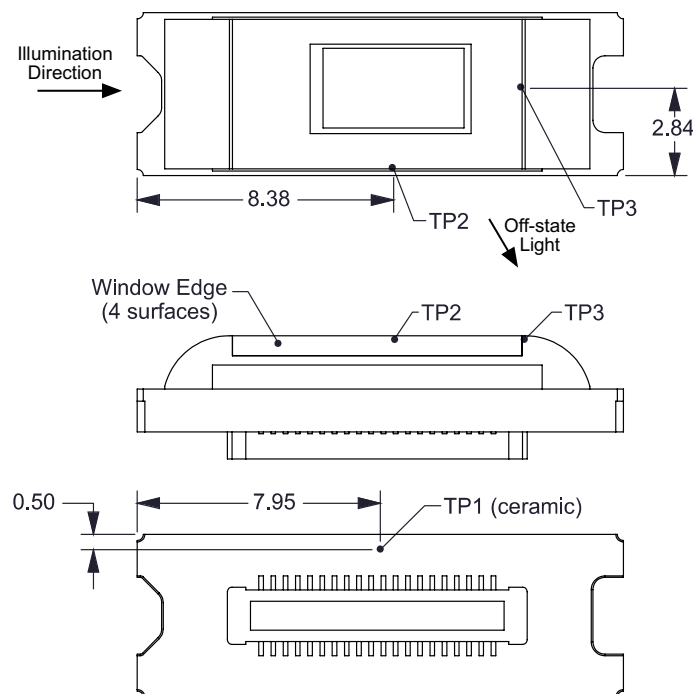

Figure 19. DMD Thermal Test Points
- T_{CERAMIC} = Measured ceramic temperature (°C), TP1 location in Figure 19